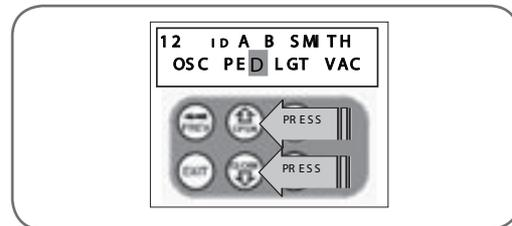

fig 37
2. Press UP or DOWN to change the displayed value (Fig. 37). The available functions are shown below (Fig. 37). Selecting OFF will prevent the opener responding to that button.
3. Press SET to save changes or press NEXT or PREV to move to next field. The example in (Fig. 37) shows that PED is assigned to the transmitter button 2. The transmitter in the example is transmitter number 12 which has the ID label AB Smith.